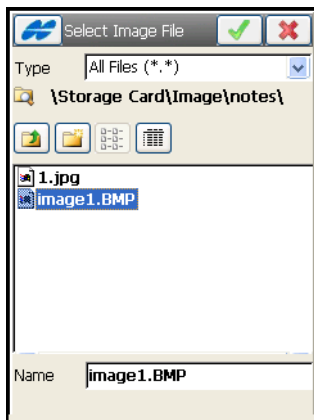

Figure 13-18. Select Image File
- **Add/Edit** – opens the **Select Image File** screen to browse for the necessary file in the controller (Figure 13-18).